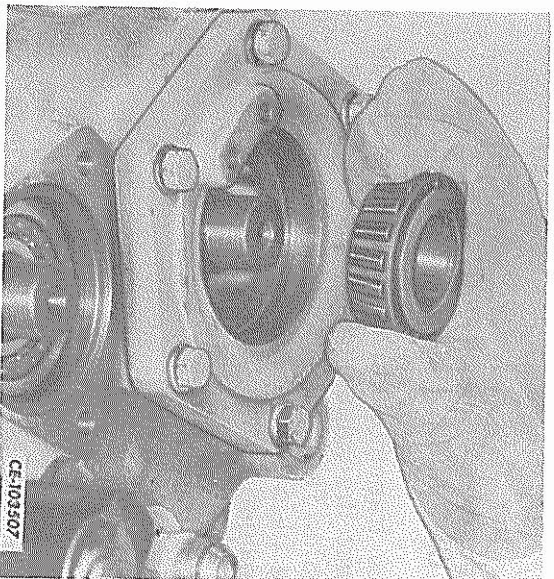

FIG. 83 — Installing the Pinion Shaft Front
55. Install the front bearing inner cone (cone with the larger I.D.) on the pinion shaft so the large diameter of the taper is up (Fig. 83). Place the bearing spacer (Fig. 31) on the inner cup.